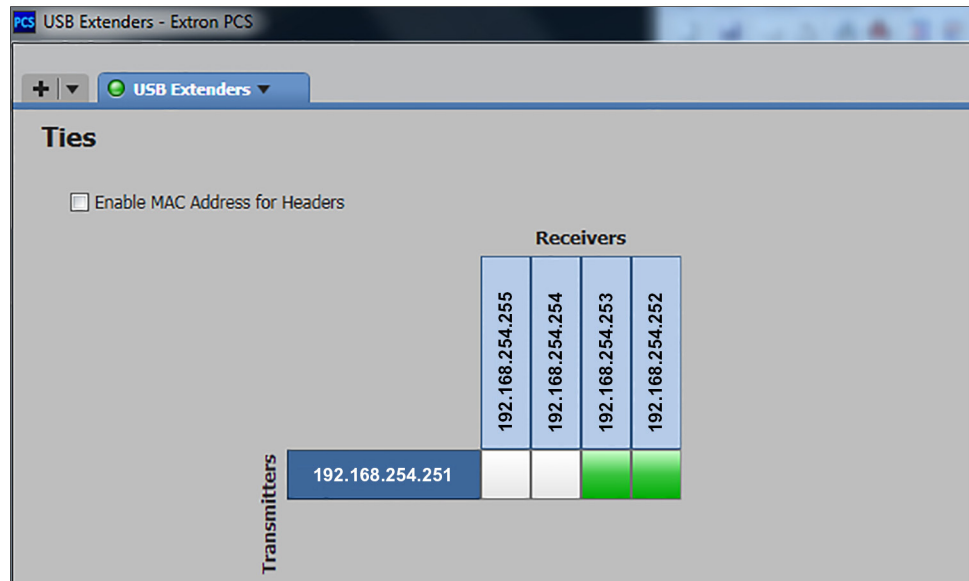

Figure 33. Tying a Transmitter to Two Receivers
2. If the box is white, click it. When the box becomes green, the transmitter and receiver are paired. Figure 33 shows a transmitter paired with two receivers.